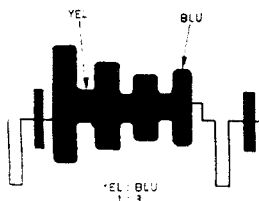

Fig. 4-32
### (3) Blue Matrix Adjustment (Figs. 4-32 - 4-36)